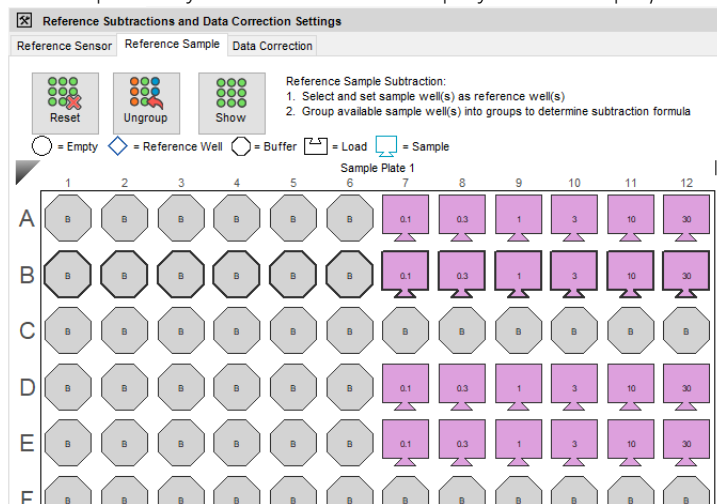

Figure 4-38: Sample Plate Showing Concentrations for Sample/Load Wells
- Sample analyte concentrations display in the sample/load wells on the sample plate (Figure 4-38).